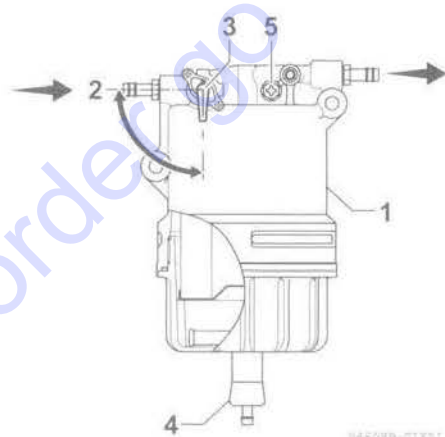

Figure 18
1. Position an approved container under the cup (1, **Figure 18**) of the water separator to collect the contaminants.
2. Close (2, **Figure 18**) the fuel valve (3, **Figure 18**).
3. Loosen the drain valve (4, **Figure 18**) and drain the contaminants. *See Drain water separator on page 72.*
4. Turn the cup (1, **Figure 18**) to the left (10, **Figure 18**) and remove the cup (1, **Figure 18**). If equipped, disconnect the sensor wire from the cup before removing the cup.
6. Remove the float ring (8, **Figure 18**) from the cup. Pour the contaminants into the container and dispose of it properly.
7. Clean the element (9, **Figure 18**) and inside cup. Replace the element if it is damaged.
11. Install the cup to the body by tightening the cup to the right (6, **Figure 18**) to 18 - 22 N·m (1.8 - 2.2 kfg·m).
13. Open the fuel valve (3, **Figure 18**).